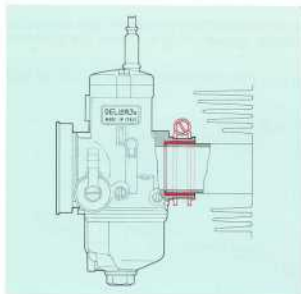

fig. 5
**B-female clamp fixing** (figure 5)
Note that the female clamp fixing and the flange connection, as you can see in figure 5 and 6, there is also the need to provide both effective heat insulation and a perfect airtight seal.